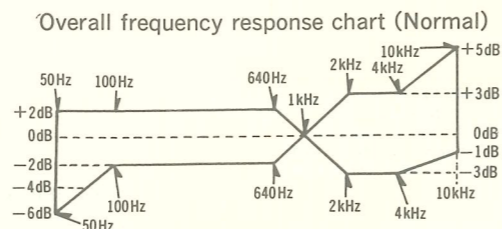
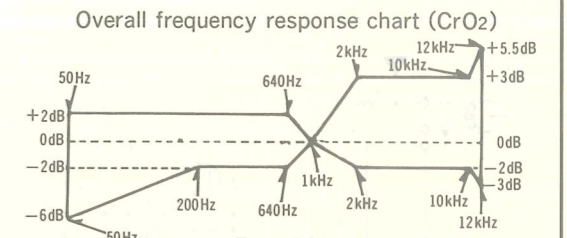
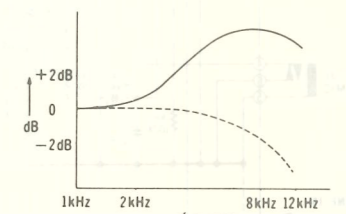

Fig. 12
Fig. 13
Fig. 15
<p>Ⓚ Level meter</p> <p>Condition:</p> <ul style="list-style-type: none"> <li>* Record mode</li> <li>* Input level controls ... MAX</li> </ul> <p>Equipment:</p> <ul style="list-style-type: none"> <li>* VTVM</li> <li>* AF oscillator</li> <li>* ATT</li> <li>* Oscilloscope</li> <li>* Resistor (600<math>\Omega</math>)</li> </ul>	<ol style="list-style-type: none"> <li>5. Adjust ATT so that input level is -20 dB below standard recording level (standard recording level=0 VU).</li> <li>6. At this time, LINE OUT level indicates 0.039 V.</li> <li>7. Record each frequency 1kHz, 50Hz, 200Hz, 640Hz (600Hz for metal), 2kHz, 8kHz, 10kHz (12kHz for CrO2 and metal).</li> <li>8. Playback and express in dB the difference between playback output level of each frequency based on playback output level of 1 kHz.</li> <li>9. Make sure that the measured value is within the range specified in the overall frequency response chart (shown in fig. 12).</li> <li>10. Change test tape to CrO2 (QZZCRX) and metal (QZZCRZ).</li> <li>11. Set the tape selector to each position.</li> <li>12. Measure in the same manner from step (3) to step (8).</li> <li>13. Make sure that the measured value is within the range specified in the overall frequency response chart for CrO2 and metal tape shown in fig. 13 and 14.</li> </ol> <p>Adjustment—Using bias current</p> <ol style="list-style-type: none"> <li>1. When the frequency response between the middle and high frequency range becomes higher than the standard value, as shown by the solid line in fig. 15, refer to bias current adjustment.</li> <li>2. When it becomes lower, as shown by dotted line, refer to bias current adjustment.</li> </ol> <p>Note:</p> <p>For the method of bias current measurement, refer to "Ⓒ Bias current adjustment" on page 6.</p>